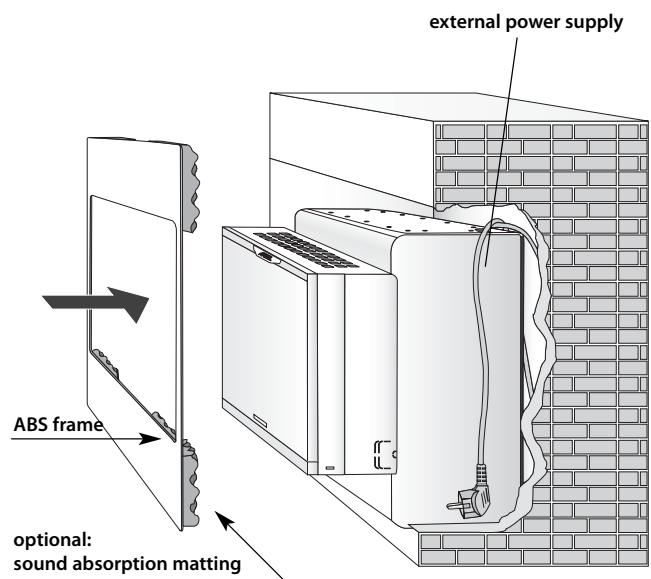

fig. 9
9. OPTIONAL: Complete installation by assembling the ABS frame that will mask the installation opening in the wall and then insert a pad of 29+29 sound absorption matting between the external frame and the plate (see Fig. 9).